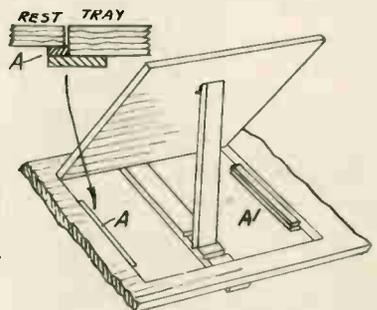

Fig. 6—Back view of rest and support
**Bedtray** (Continued from page 239) sides, two fillets of wood (A, in Fig. 6), with an upper slip glued in the rebate, will be attached to the underside of the tray. These pieces measure 6ins. by 1in. by 1/4in. Then to the back of the rest, a strut of 1/2in. wood will be hinged and so attached that the rest will close down flat against the back cross rail.
surface of the cross back rail as Fig. 6 shows. The correct length of the back strut should be got by measurement direct from the made-up tray and rest. The positions of the grooves in the cross rail are marked previous to being cut in.